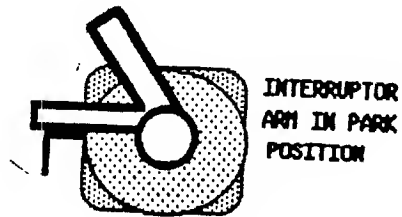

FIGURE 1
- (1) Remove the Cover and then the HDA assembly from the Profile.
- (2) Remove the Analog PCB from the HDA.
- (3) Turn the HDA upside down in front of you. Locate the brake mechanism as shown in figure 1. Insert the flat gauge between the Solenoid Body and the Plunger Plate as shown in figure 1.
(Fig.1)
Observe: That after approximately 20 seconds the HDA interrupter arm will move from Park position to track 0 position as shown in figures 1 and 2.